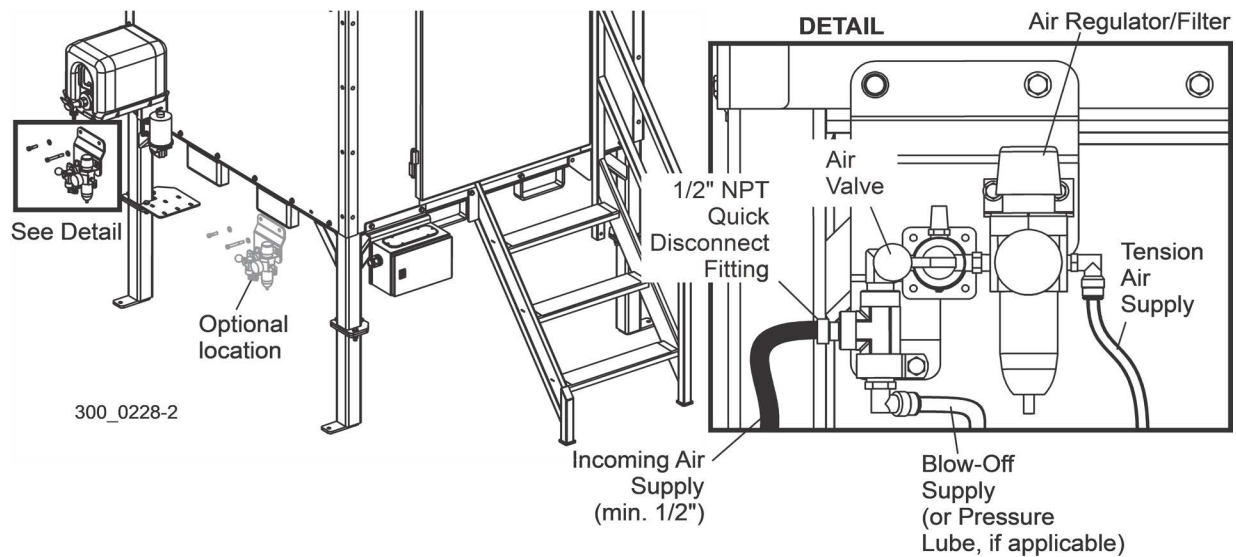

FIG. 3-32
- Repeat at each leg location along the length of the main bed tube. See Fig. 3-32.